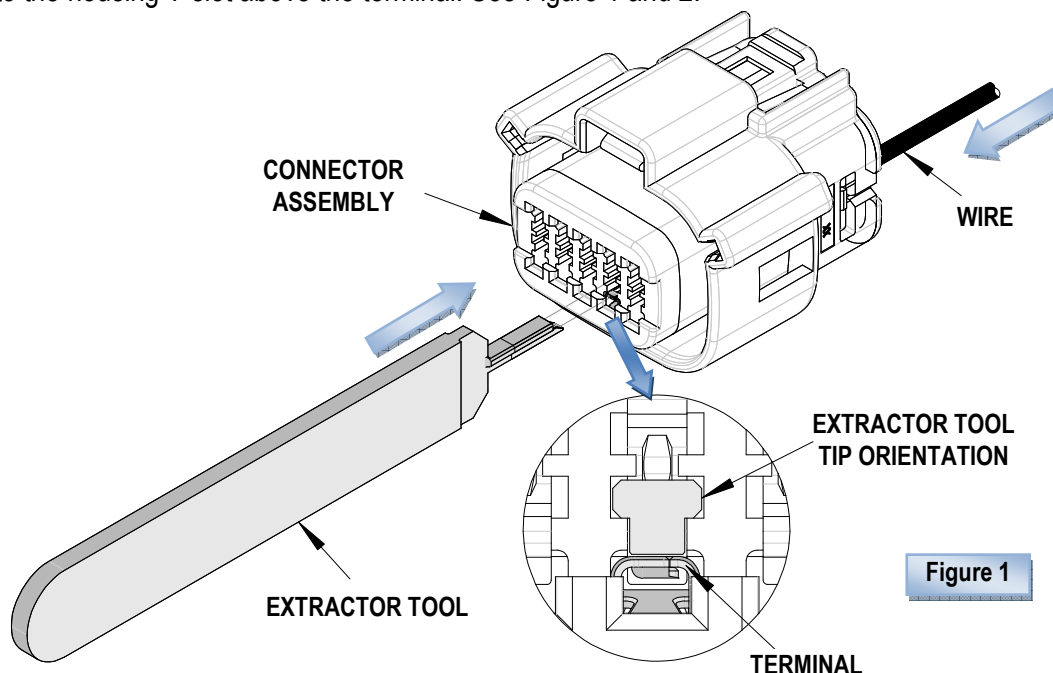

Figure 1
1. Push the terminal and wire forward in the arrow direction before using the Extractor Tool. Insert the tip of the tool into the housing T-slot above the terminal. See Figure 1 and 2.